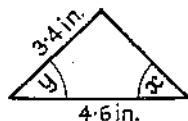

Fig. 26
- (4) Calculate the angle
- in fig. 26.